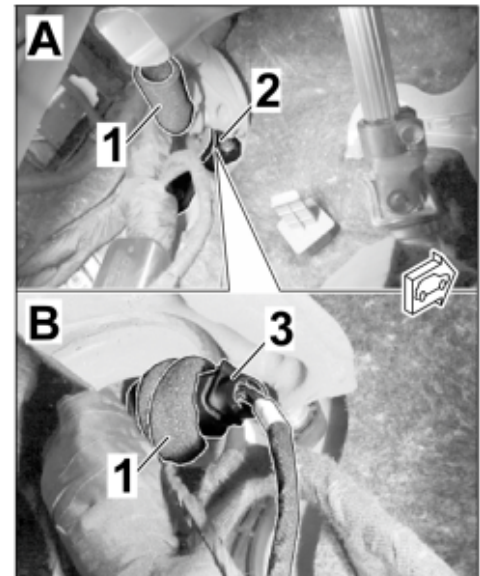

Figure 15
3.1.1 Expose the connection point (preparation = socket connector, 6-pin) in the passenger compartment of the vehicle, area of firewall grommet, A-pillar left. ⇒ *Figure 15 -A-*
3.1.3 Establish a connection between the plug connection preparation and the wire harness for the exhaust flaps (6-pin). ⇒ *Figure 15 -B-*